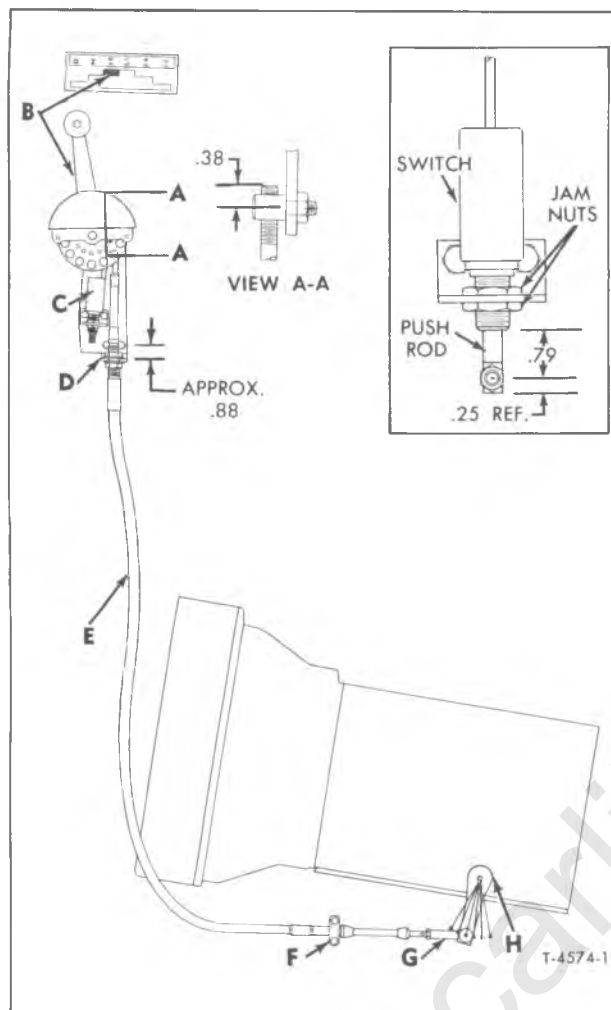

Figure 6—Manual Shift Linkage (Typical All Models)
**MANUAL SELECTOR LINKAGE ADJUSTMENT** (Refer to Fig. 6)
1. Locate transmission selector lever (B) against stop in “3-6” position.
2. Check cable for dimension shown in View A-A, and adjust if necessary. Anchor cable to bracket at point (D).
**NOTE:** Threaded portion of shift cable extends 0.88 inch above top-side of bracket, as shown at point (D).
3. Disconnect clevis (G) from manual shift lever (H). Anchor cable (E) securely at point (F).
4. Locate manual shift lever (H) in “3-6” position (3rd notch from the rear). Adjust clevis (G) for free-entry of clevis pin through clevis and manual shift lever (H). Then lengthen clevis (G) by 1-1/2 turns, install clevis pin, tighten jam nut, and secure with cotter pin.
**NEUTRAL SAFETY AND BACK-UP LIGHT SWITCH ADJUSTMENT** (Refer to Inset, Fig. 6)
2. Move lever (B) to “N” (Neutral) position, then referring to Inset, fig. 6, loosen jam nuts and adjust length of push rod to dimension shown.